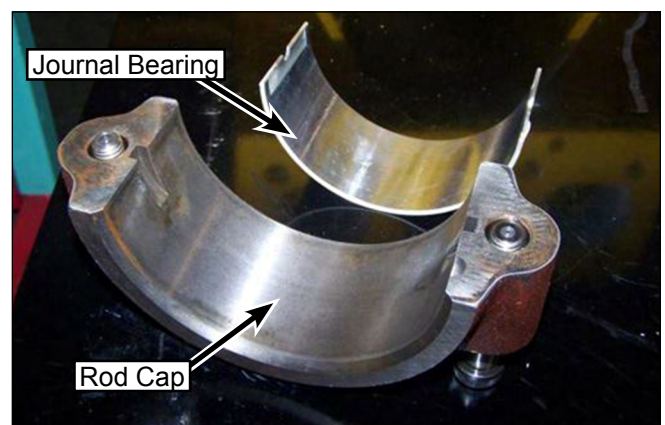

Figure 116: Discard Old Journal Bearings.
7. Remove the journal bearing from the rod cap and discard (Figure 116).